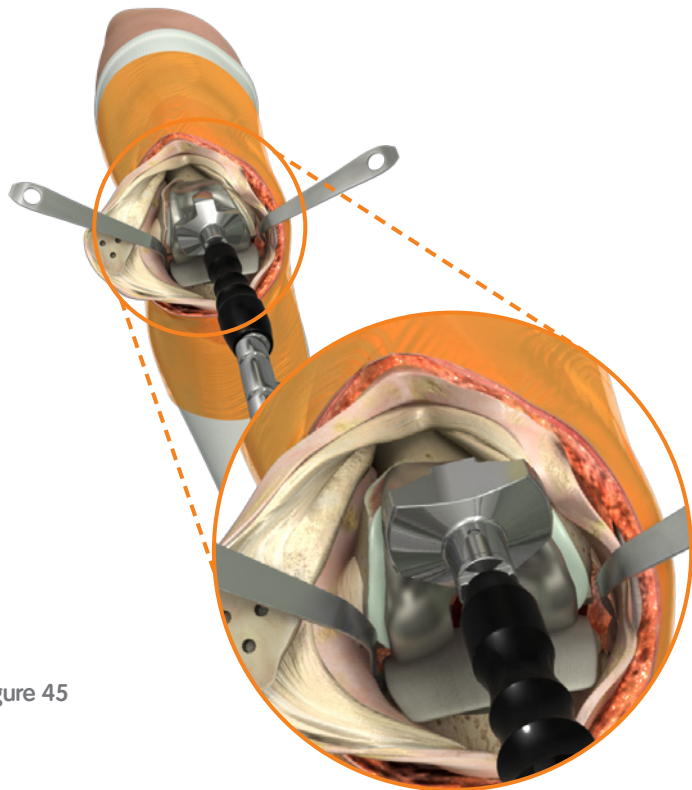

Figure 45
2. Place the Femoral Implant onto the femur and use the Cruciate Retaining Modular Femoral Impactor to fully seat the implant (Figure 45). Remove excess cement. Extend the knee to remove cement anteriorly without retracting the proximal soft tissue.